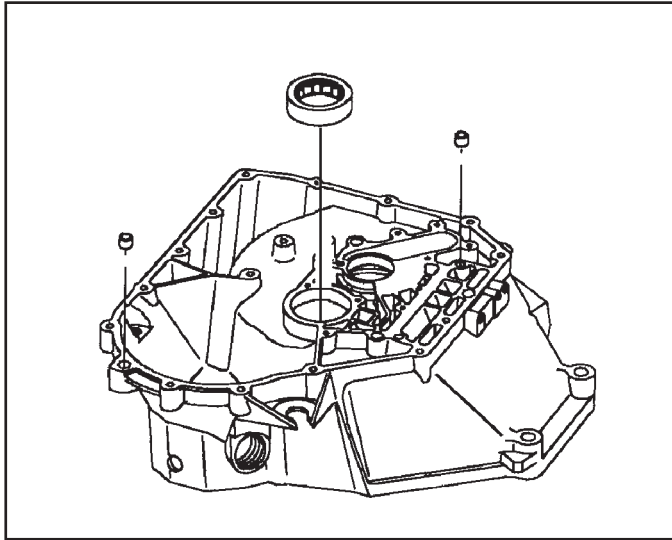

Figure 153
15. With the press fixture tool installed on the front of the converter housing, flip the case half over and press in the output shaft roller bearing using Saturn's bearing installer SA9114T or equivalent (See Figure 153).